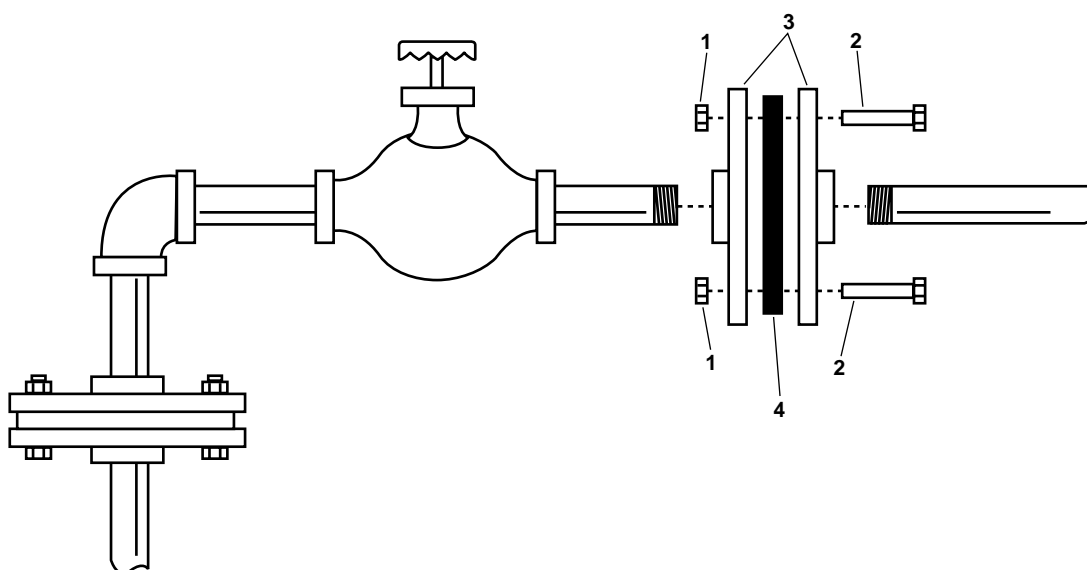

Figure 2. Replace Flanged Piping
1. Remove the nuts (figure 2, item 1) and bolts (figure 2, item 2) that secure the flange (figure 2, item 3).
3. Remove and discard the gaskets (figure 2, item 4).
2. Position the piping section or component in place and loosely secure with one nut (figure 2, item 1) and one bolt (figure 2, item 2) in each flange (figure 2, item 3).
3. Insert a new gasket (figure 2, item 4) between the flanged sections and loosely secure with one nut (figure 2, item 1) and one bolt (figure 2, item 2) through the flange (figure 2, item 3) and gasket.
4. Remove the nut (figure 2, item 1) and bolt (figure 2, item 2) installed in step 2 above and position the gasket (figure 2, item 4) properly between the flanges.
5. Install the remaining nuts (figure 2, item 1) and bolts (figure 2, item 2) to secure the flange. Do not tighten the bolts at this time.
7. Tighten the nuts (figure 2, item 1) and bolts (figure 2, item 2) that secure the flanges (figure 2, item 3).